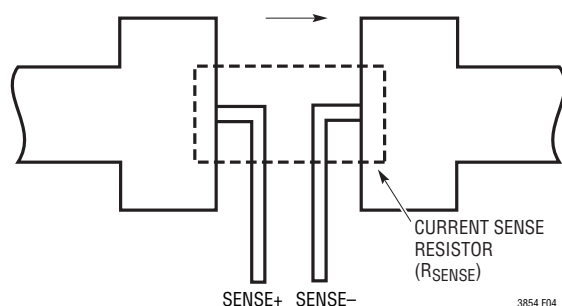

Figure 5. Kelvin Sensing  $R_{SENSE}$
- 3) Are the SENSE– and SENSE+ leads routed together with minimum PC trace spacing? The filter capacitor between SENSE+ and SENSE– should be as close as possible to the LTC3854. Ensure accurate current sensing with Kelvin connections as shown in Figure 5. Series resistance can be added to the SENSE lines to increase noise rejection.
- 6) Keep the switching node (SW), top gate node (TG), bottom gate node (BG) and boost node (BOOST) away from sensitive small-signal nodes, especially from the voltage and current sensing feedback pins. All of these nodes have very large and fast moving signals and therefore should be kept on the “output side” (Pins 4,5,6 and 8) of the LTC3854 GND and occupy minimum PC trace area.